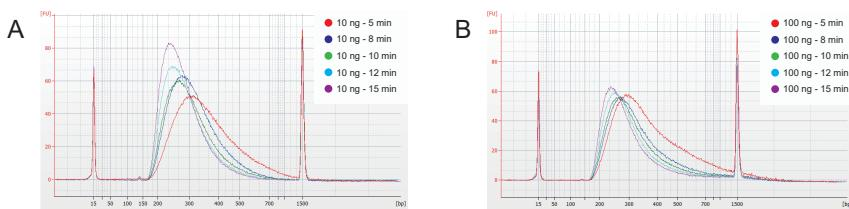

Fig 2. Library quality analysis of Input DNA and fragmentation time
- ▲ Properly extending the time for adding a poly(A) tail, such as 72°C for 20 min, which can improve the efficiency of polyadenylation and enhance library conversion rate to some extent.
- ▲ When using high-quality human gDNA for library preparation, different inputs within the recommended input range (100 pg - 500 ng) with the same reaction time resulted in little variation in the distribution of fragmentation product (the distribution range is essentially consistent, but the main peak size may vary slightly, refer to Fig 2). The fragmentation time is 5 min and adapter size is approximately 120 bp, the main peak size of the library is 280 - 320 bp after amplification. If the input DNA is not within the expected range, it is recommended to increase or decrease the fragmentation time by 2 - 5 min.